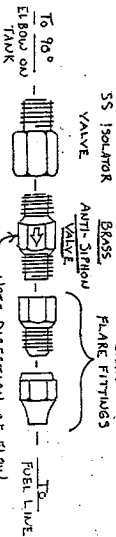

FIG. 3
1. Install the stainless steel isolation fitting to the fuel feed elbow on the tank with pipe thread compound. See Fig. 3 for detail of fittings between the tank and fuel line.